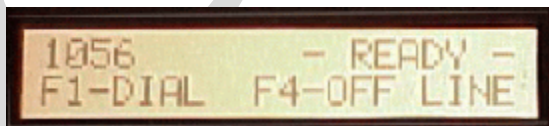

Figure 3
5. In the ready state, the TIU will have the DSR and RTS indicator green lights illuminated (figure 2) and have the information displayed as shown in figure 3.